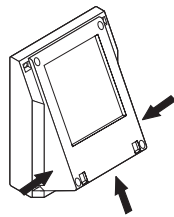

Fig. 5
- Drill hole for the PG connection at a suitable point in the housing (Fig. 5) and mount the PG connection on the housing.